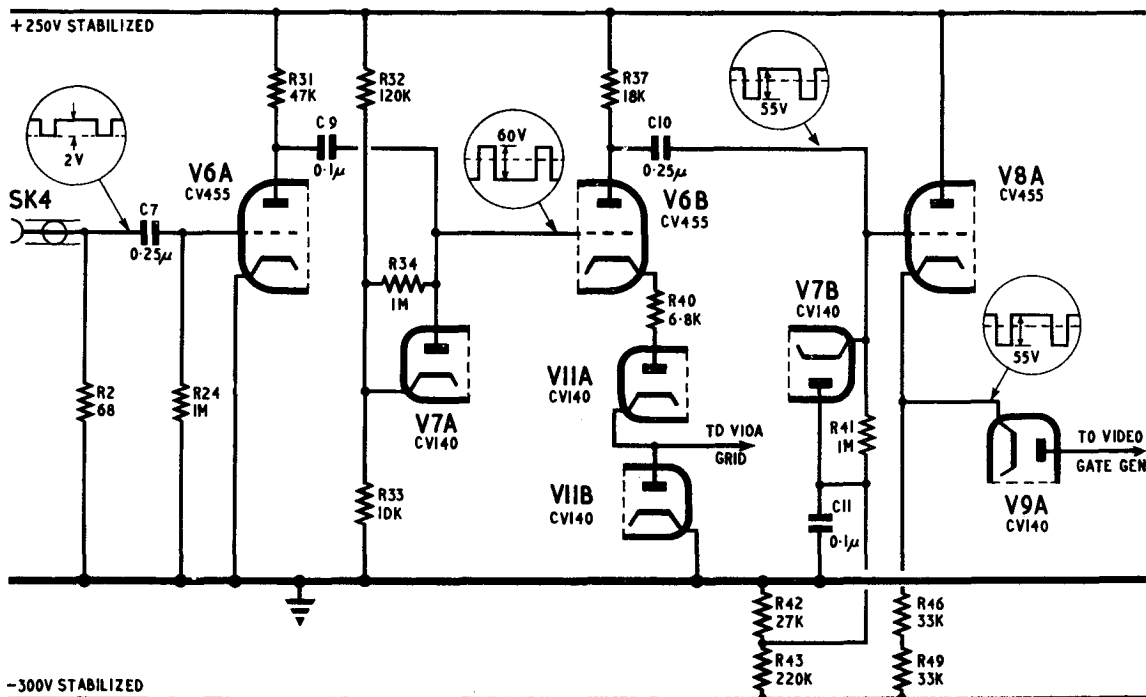

Fig. 6. Radar bright-up amplifier
24. The radar bright-up amplifier stages include the miniature double-triode valve V6 (CV455) and one half of V8, which is of the same type. They also include the double-diode V7 (CV140). A simplified circuit diagram of these stages is shown in fig. 6. The function of this part of the unit is to accept at SK4 the radar bright-up wave distributed from the radar office via the head selector unit, and to apply two versions of this rectangular